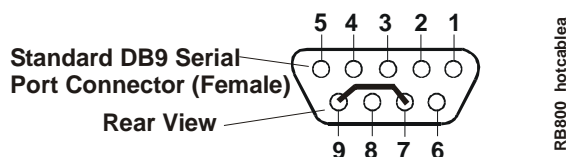

Figure 3-3. Hot Cable Jumper
To convert a standard serial cable to a Hot Cable, certain pins must be shorted together at the Serial port connector or on the DB9 connector. For example, short the RTS (7) and RI (9) on the respective DB9 port connector as shown in Figure 3-3.